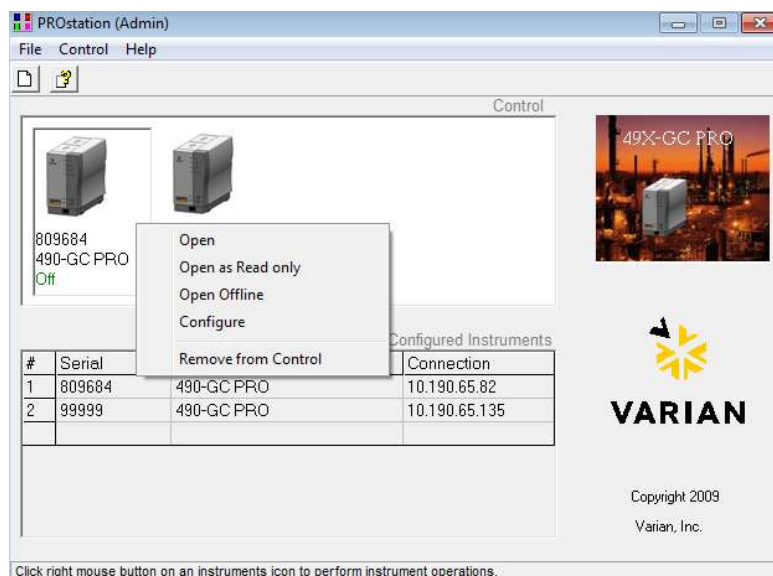

Figure 33: Open Instrument menu
- Select the “Open” option for full Instrument control. This is required for method development and acceptance, see Figure 33. The ‘Open’ option can also be achieved by double left mouse clicking on the instruments icon.